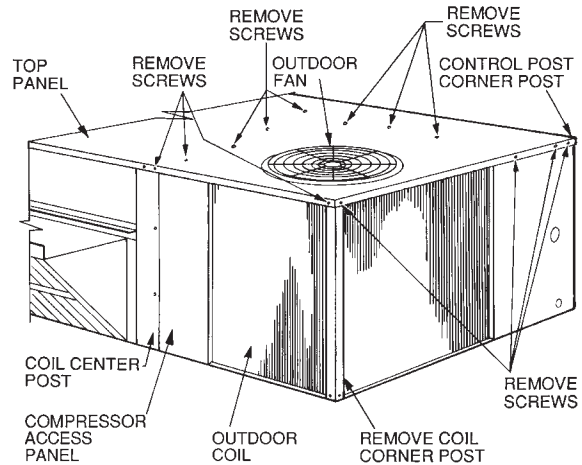
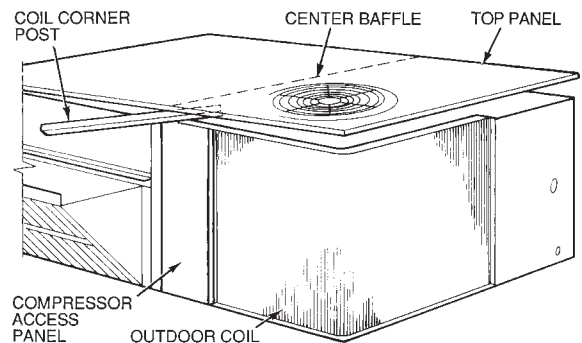

Fig. 54 – Cleaning Condenser Coil
Fig. 55 – Propping Up Top Panel
3. Remove condenser coil corner post. (See Fig. 54.) To hold top panel open, place coil corner post between top panel and center post. (See Fig. 55.)